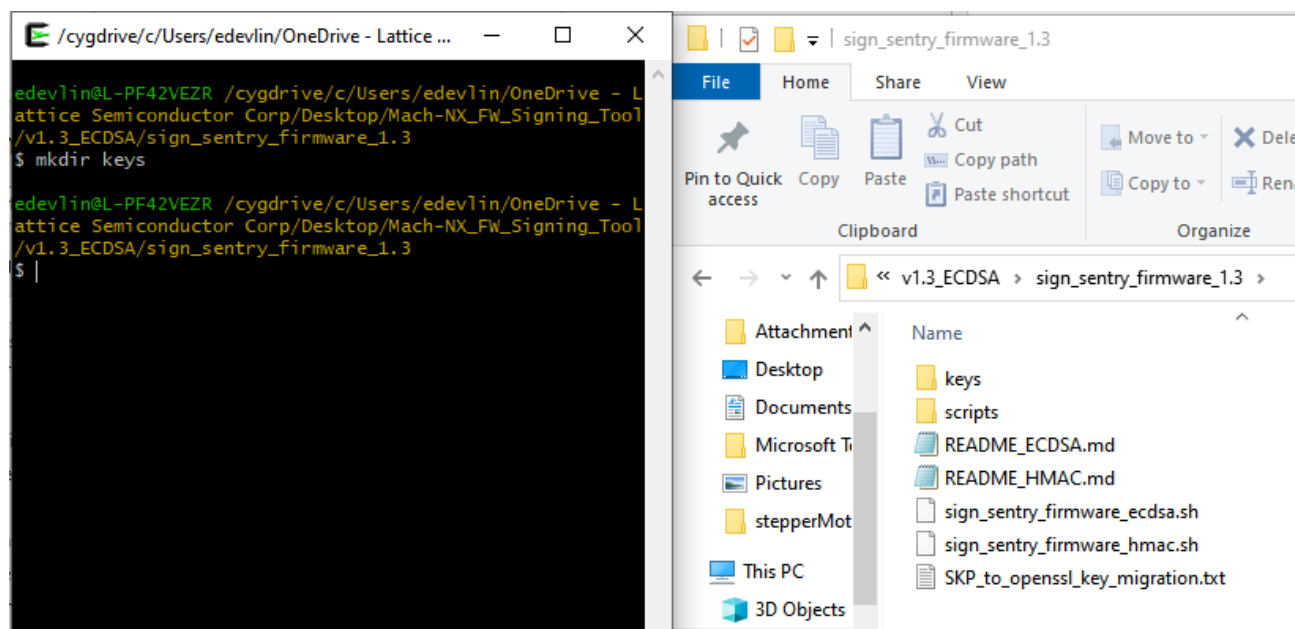

Figure 4.5. New Directory Name Keys Created
2. Create a directory named keys using the following command as shown in Figure 4.5.